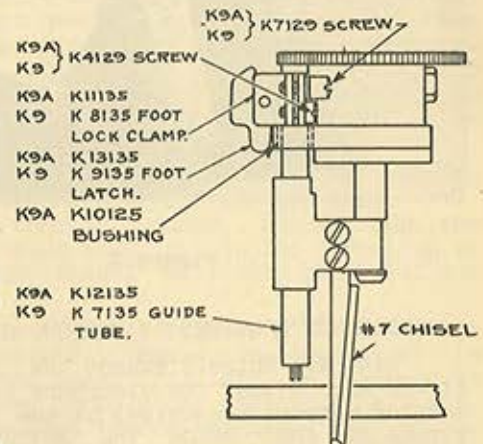

Figure 2
When the No. 7 chisel or any saw is being used, and the chisel guide, therefore, is NOT required, it should be swung to the "off" position illustrated in figure 2.
2. Raise the K13135 latch on the K9A, or the K9135 latch on the K9 (see figure 2) out of the notch.